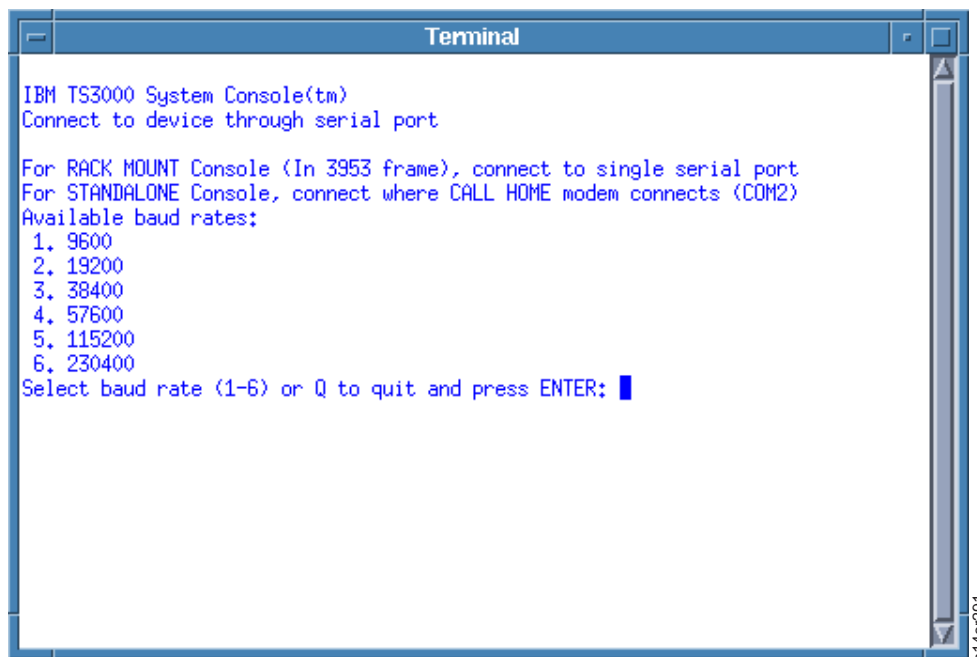

Figure 2-95. Baud Rate Screen - From System Console
2. Select **Serial Port**. You see Figure 2-95. Type the number of the port speed (baud rate) for the device to which you will be connecting. The message 'Connected' appears. Press **Enter**.